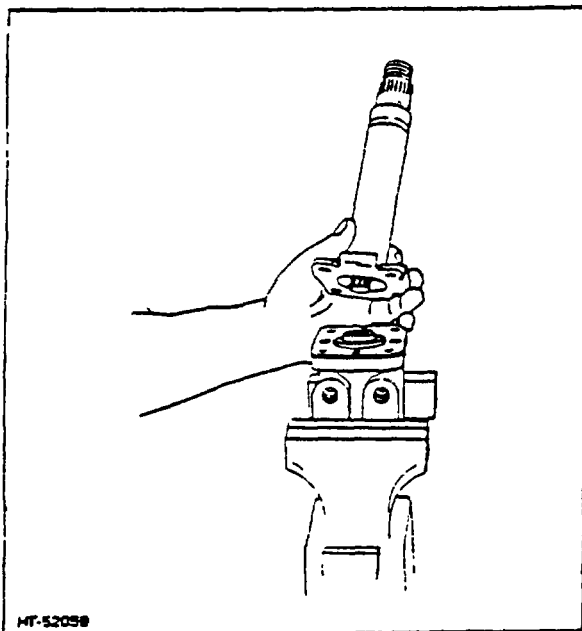
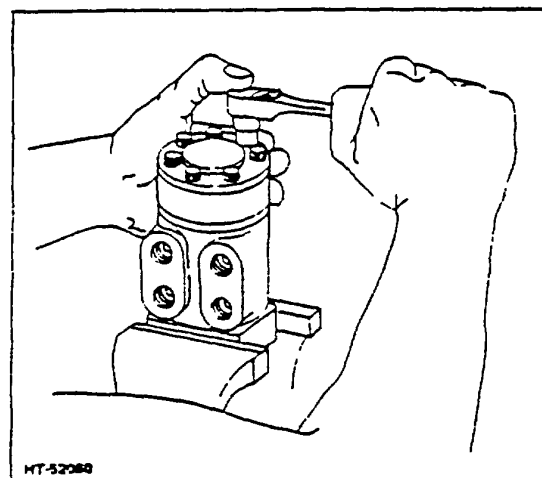

Figure 7. Removing Column From Housing
Figure 8. Removing End Plate Capscrews
1. Place the power steering unit in a vise, (Fig. 7). Remove the horn button and rubber cover by pushing down and turning to the right to
6. Remove the two capscrews that secure the column to the lower unit. Match mark the capscrew holes so the ports will be in the proper direction when reassembled. Remove the column from the lower unit (Fig. 7).
7. Clamp the unit in the vise with the meter end up and remove the seven capscrews (Fig. 7). Remove the three-section cap, gear, and plate as a unit, and set to one side on the bench (Fig. 8).